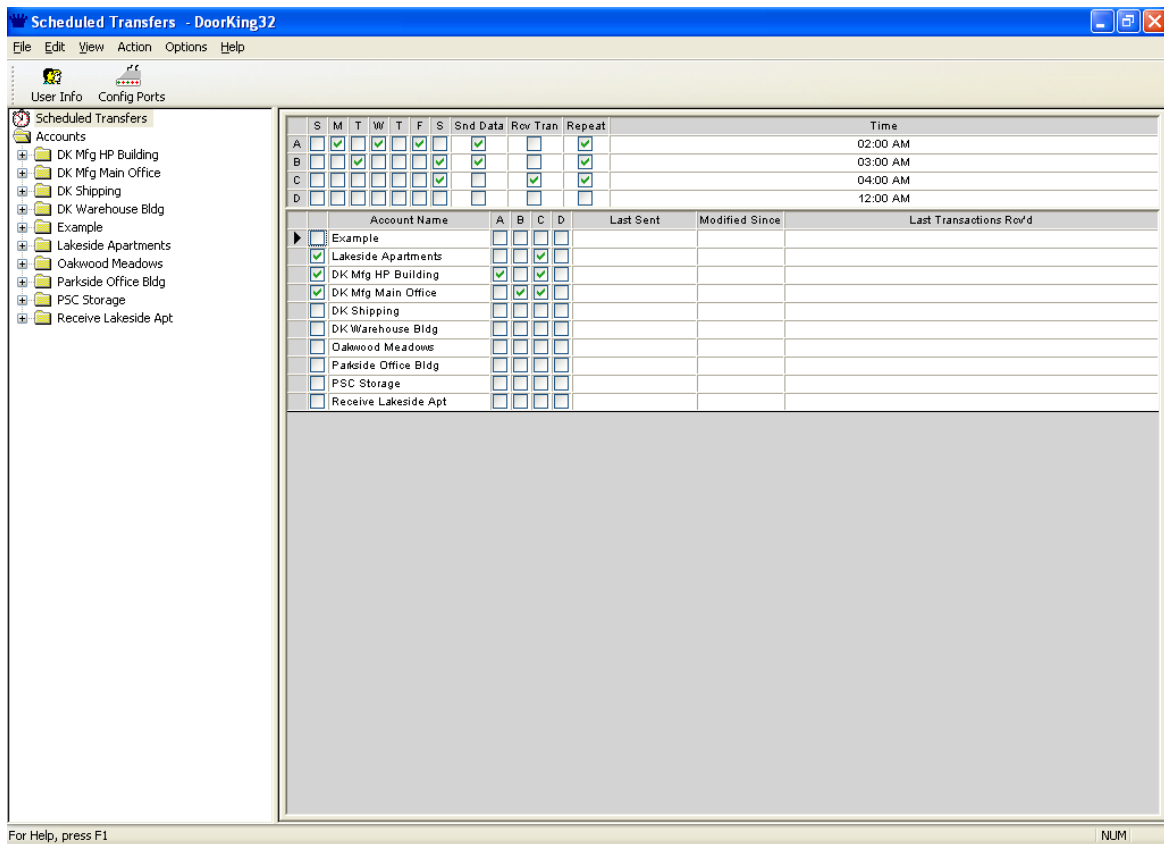

Figure 57
1. Click SCHEDULED TRANSFERS in the side bar. The scheduled transfer window appears (Fig 57).